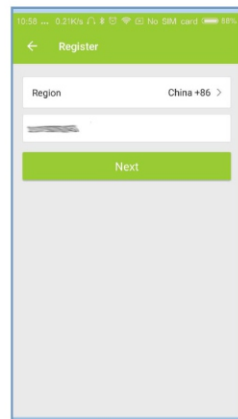
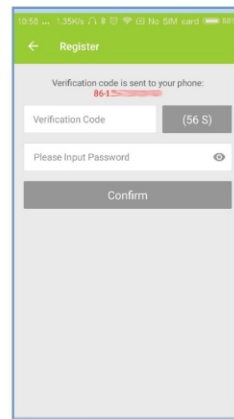

fig 2.3
fig 2.4
- Select your region and type in your phone No. or email (fig 2.3) then you may get a verification code. Type in your password and confirm (fig 2.4) to complete your registration.